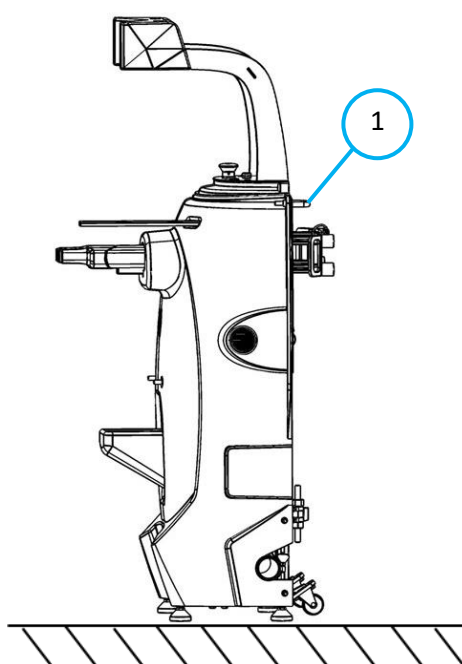

Fig. 1
1. To roll station place hands on the back handle (Fig. 1 – 1) located on the back of the station.